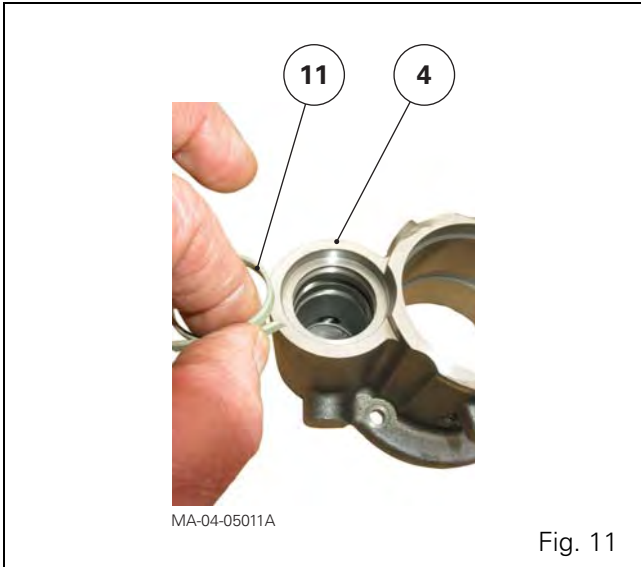
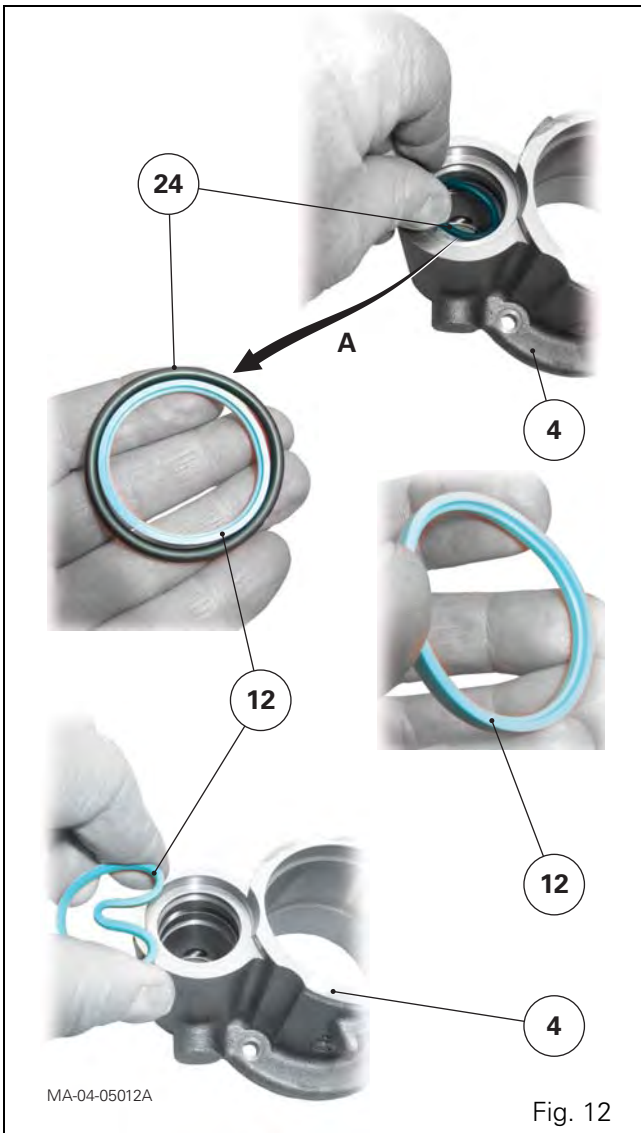

Fig. 11
Fig. 12
Replacing the guide rings (11) and composite seal (12) (24) of a slave cylinder (Fig. 11)
46. Pre-form a guide ring (11) by reducing its diameter by approximately one third. Fit it into the lower groove of the slave cylinder (4).
47. Lubricate and fit an "O" ring (24), without twisting it, into the intermediate groove of the slave cylinder (4).
Form a composite seal (12) as shown in Fig. 12, without creating any sharp angles. Fit this seal manually and evenly against the "O" ring (24).
IMPORTANT: The lip of the composite seal (12) should be turned towards the pressure chamber of the slave cylinder (A, Fig. 12).
48. Pre-form a second guide ring (11) as described above. Fit it into the top groove of the slave cylinder.
49. Use the same assembly method to replace the guide rings (11) and composite seal (12) (24) in the second slave cylinder.